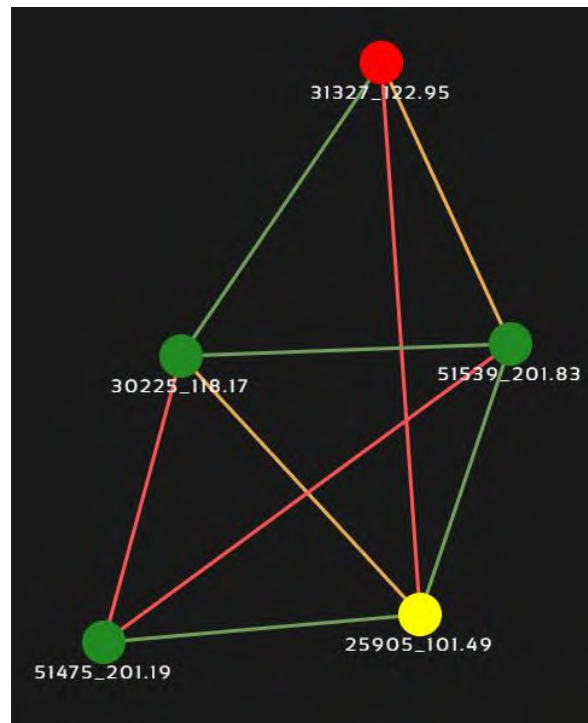

Figure 42 Example Network Topology
- **Color Coded Link Health** – Color coding of each link in the network allows the user to quickly identify the weak links within a network. A link between two nodes will transition from green to yellow to red as the link weakens while also displaying the SNR of the link. This can be seen in **Figure 42 Example Network Topology**.
- **Route Health** – The Silvus StreamScape Utility will alert the user when too many packets are being routed through a single node. In such cases, a node will change from green to yellow to red as the packet queue increases (see '31327\_122.95' and '25905\_101.49' in **Figure 42 Example Network Topology**). This will allow the user to recognize the issue and configure the network accordingly. Table below also shows the values for each scenario.